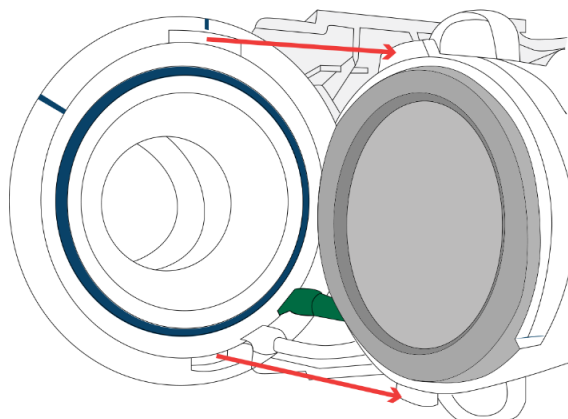

Figure 10 - Alignment of Flowhead Subject End and Heater Assembly
- Fit Flowhead Subject End to Heater Assembly by lining up large and small alignment keys as in Figure 10 and then turning the parts clockwise to the lock position. This forms the Flowhead.